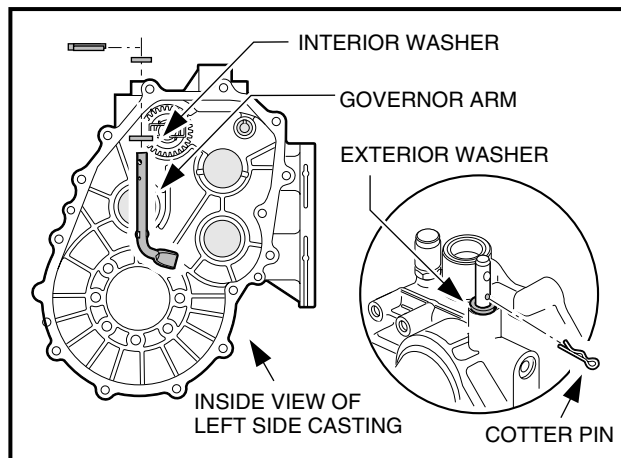

FIGURE 10-72
5. Position the interior washer on the pivot arm, then install the pivot arm and washer into the left (driver) side casing as shown (**Figure 10-72, Page 63**). Then install the exterior washer and cotter pin on the pivot arm outside the casing as shown (**Figure 10-72, Page 63**).